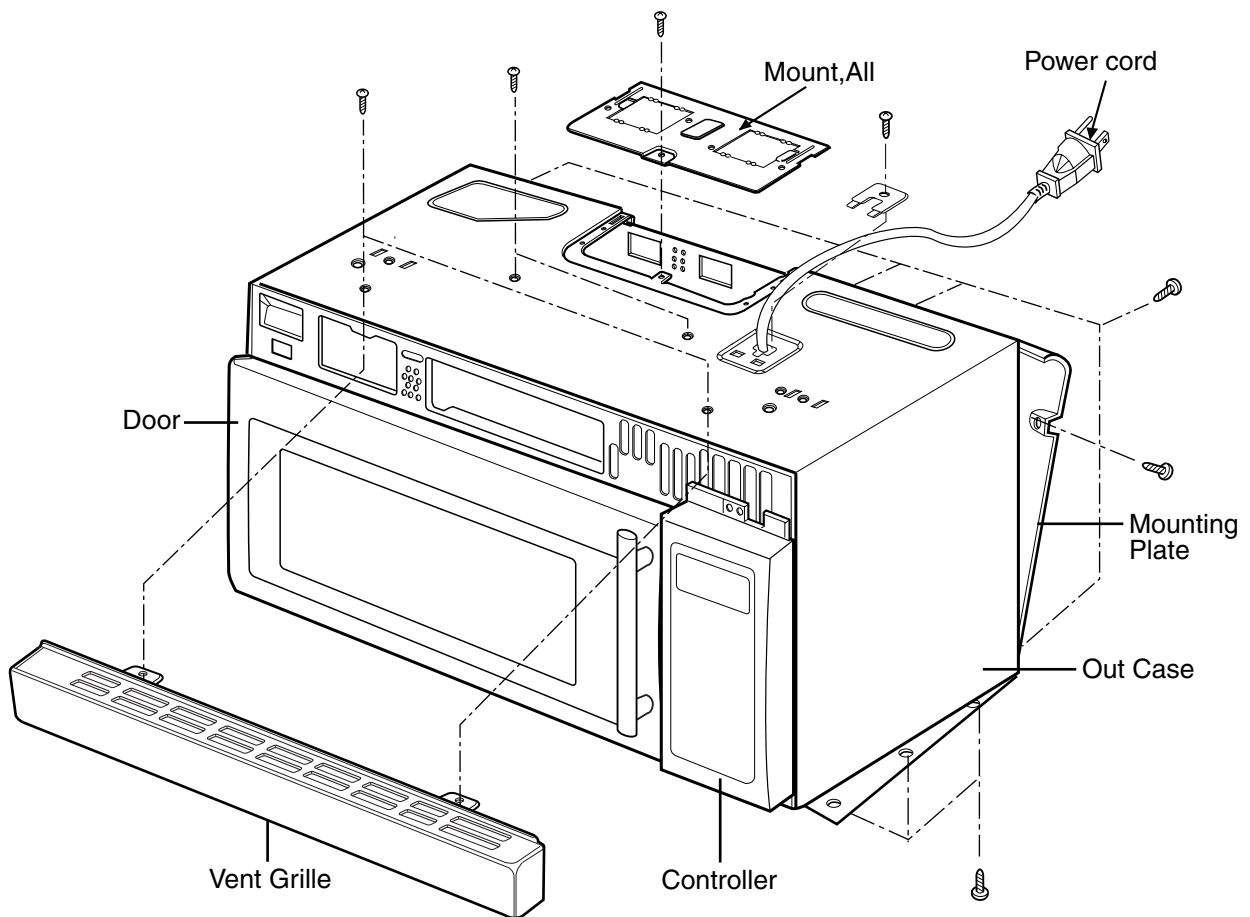

Figure 8
B. REMOVING THE OUT CASE(Figure 8)
- (1) Remove the vent grille by removing two screws securing it to the out case.
- (2) Remove two screws securing it to the air duct.
- (3) Remove the mounting plate by turning the screws (1 or 2 screws)securing it to the out case.
- (4) Remove two screws on the left central edge and two screws on the right central edge of Base plate. Remove the Mount,All from the out case by removing one screw securing it to the out case.
- (5) Remove four screws of the rear cavity.
- (6) Remove the outcase with disconnecting power cord connector.